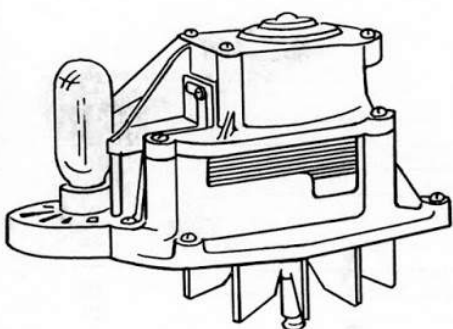

FIG. 15—A motor and fan assembly
3. Motor and Fan Assembly. Figure 15.